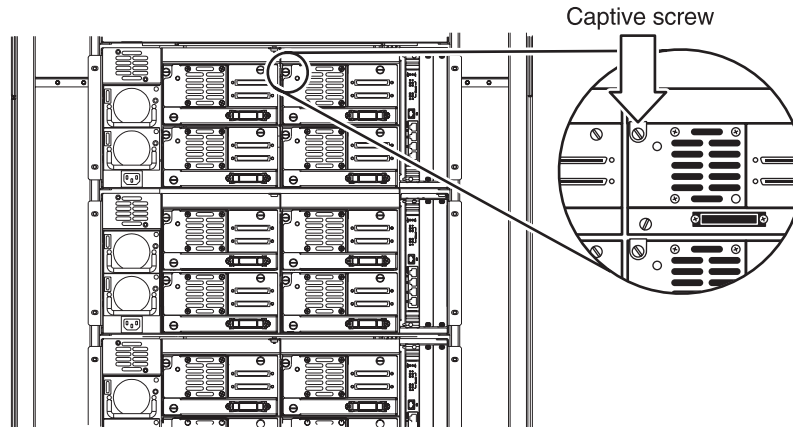

Figure 37: Tightening the captive screw
4. Using a slotted screwdriver, secure the drive by tightening the captive screw in the upper left corner of each drive module (see Figure 37).